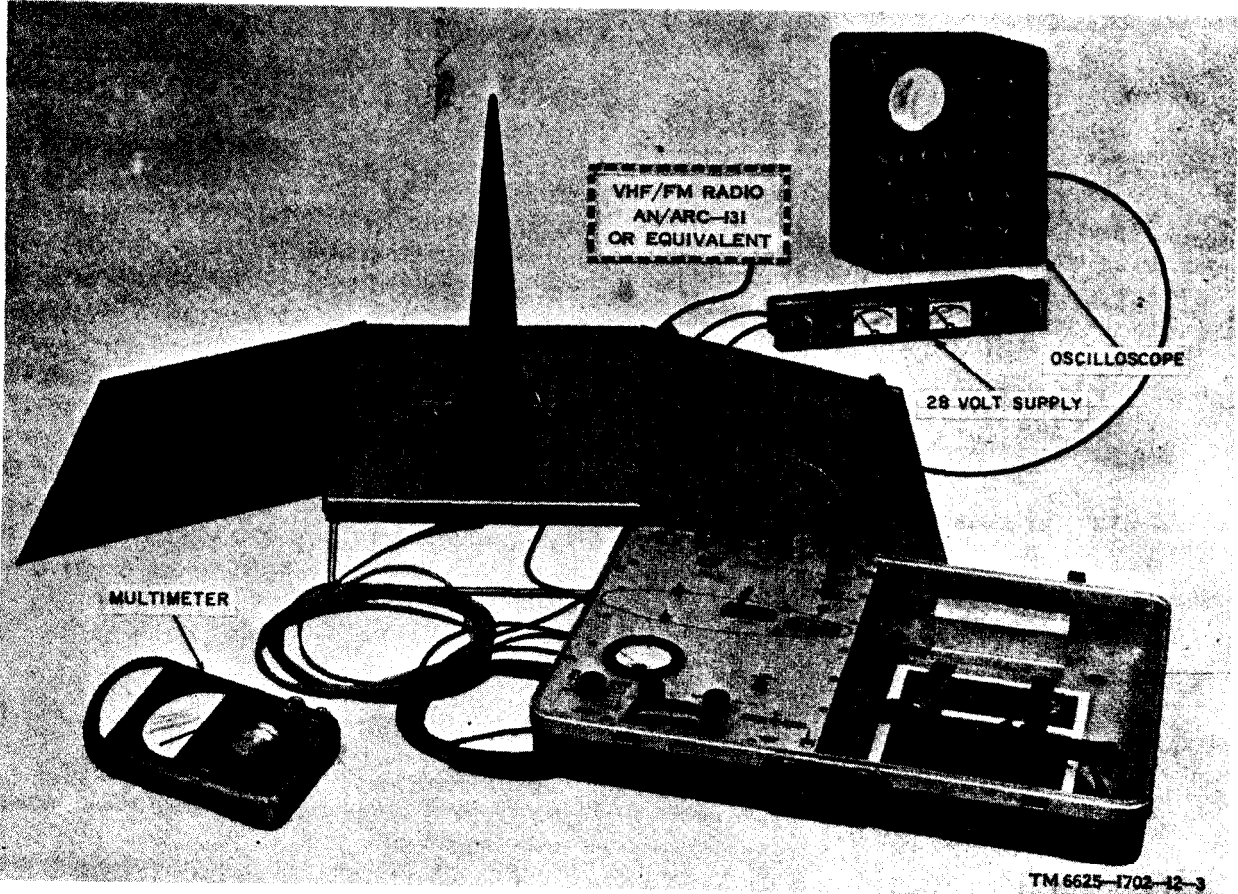
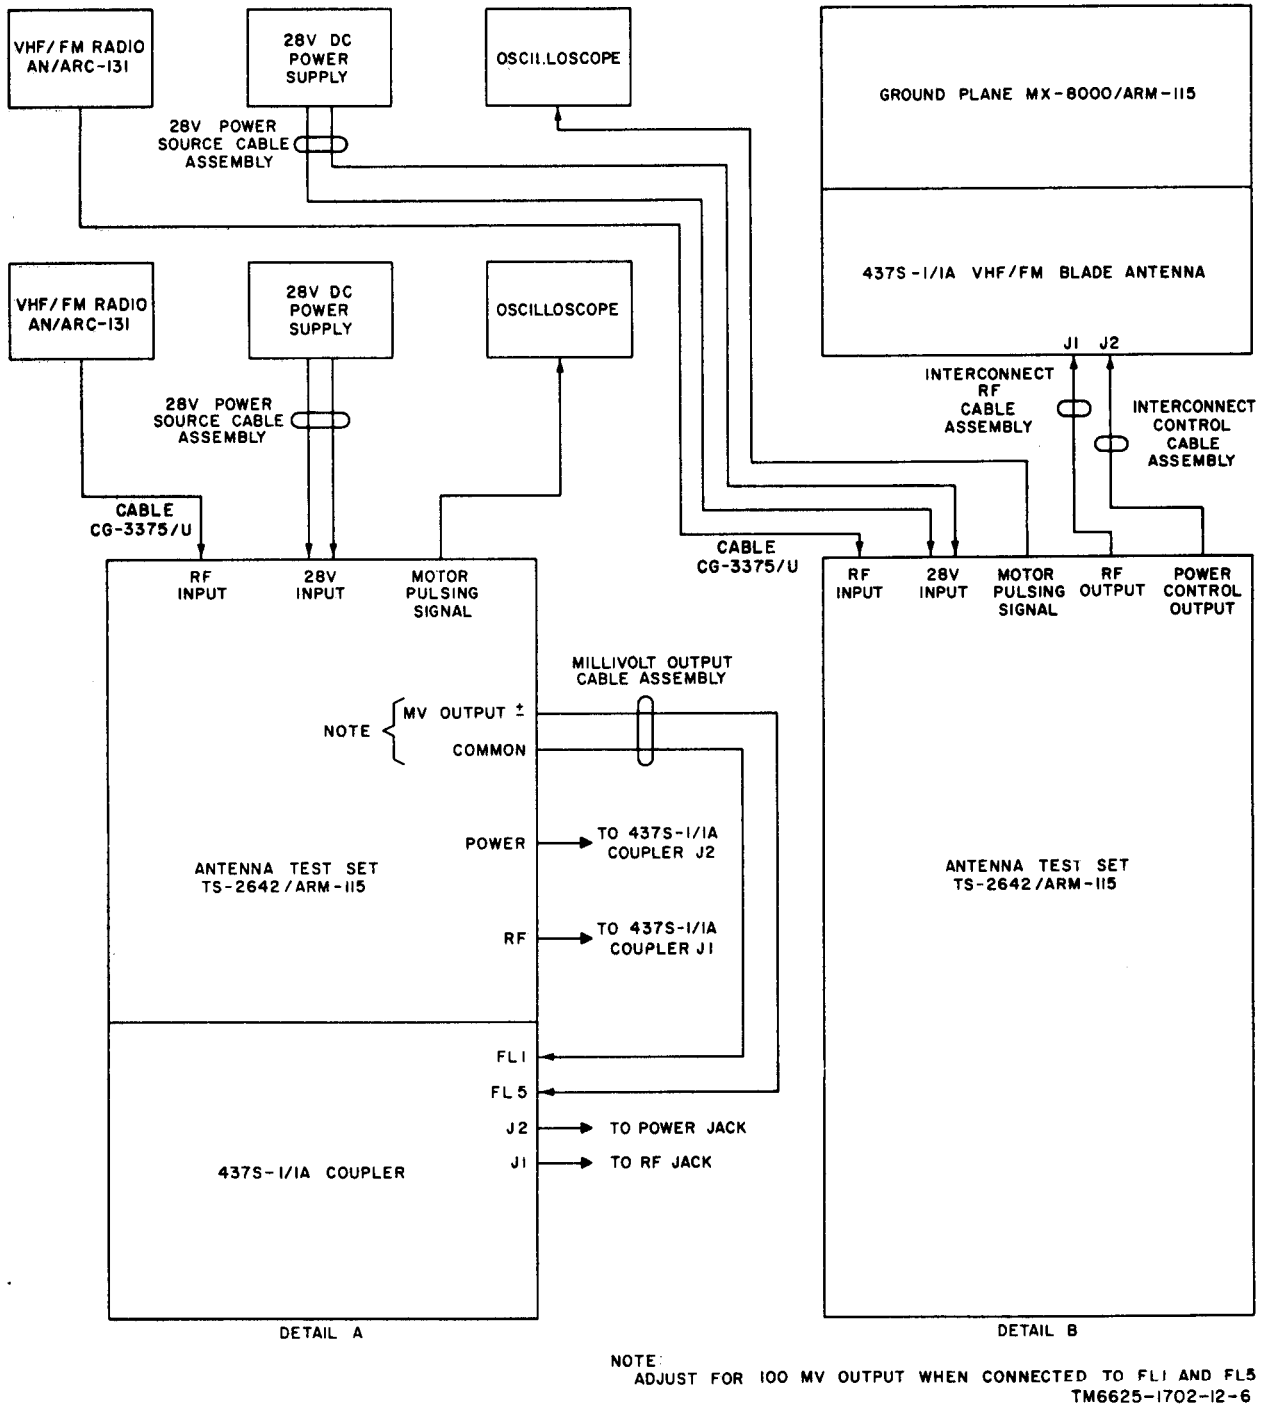

Figure 2-2. Test Set, Antenna AN/ARM-115 with test equipment connected, using ground plane.
Figure 3-2. Test Set, Antenna AN/ARM-115 and test equipment in typical operational configurations, block diagram.
Test Set, Antenna AN/ARM-115 is designed for bench use in a repair-shop environment and is supplied mounted in a carrying case (fig. 1-1 ). It is not designed for installation in an equipment rack assembly or for use at the aircraft. The TS-2642/ARM-115 is normally removed from the test set case for conservation of bench workspace and has handles for ease of removal; however, it can also be operated while in the test set case. If the test set is to be used without the test set case, the carrying case should be stored nearby for future use. The AN/ARM-115 should be installed in an rf-free environment. Figures 2-2 and 2-3 show the installed AN/ARM-115. In most testing situations, use of the radome and ground plane is not required. The antenna coupler is normally removed from the 437S-1/1A antenna and tested separately on the test set control panel. However, when the radome and ground plane are used in operational tests, the radome will have inserted into its base the coupler from the 437S-1/1A antenna under test. The radome is then mounted on the ground plane.
b. *Starting.* Test Set, Antenna AN/ARM-115 requires only one control adjustment to start the equipment. This adjustment is required only in those instances when the antenna coupler is mounted on the control panel and not when the ground plane is used. It consists of adjusting the MV OUTPUT control to 100 mv, and making connections to the equipment to be operated. These connections depend upon whether or not the ground plane is to be used. Outlined below are the connections required for the operational configurations with the ground plane and without the ground plane. These configurations are illustrated in figures 2-2, 2-3, and 3-2.
(1) *Without ground plane* (detail A, fig. 3-2) .
(2) *With ground plane* (detail B, fig. 3-2 and fig. 2-2).